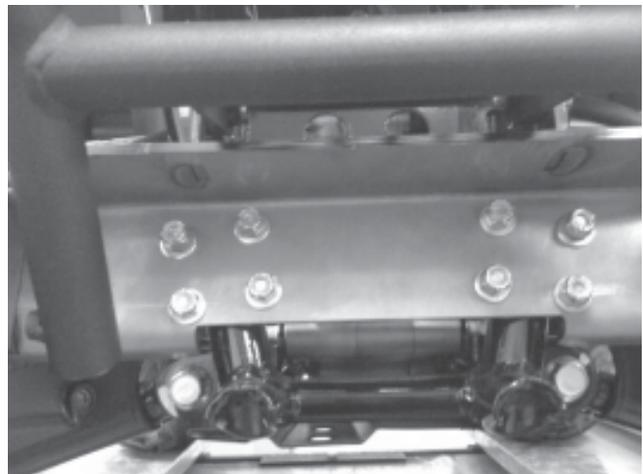

Figure 7
8. Install the U-Bolts around the frame tubes (Figure 7). Secure each U-Bolt with a flat washer and lock nut.